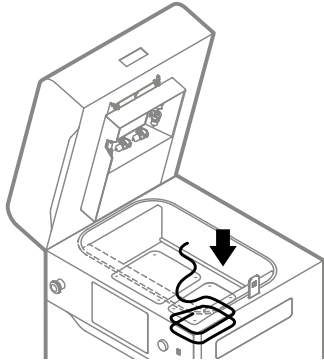

Fig. 12.26 Put on new fibreglass sealing.
20. Put on a new fibreglass rope by wrapping it four times around the Print Bed. Remember not to stretch the fibreglass rope (fig. 12.26).